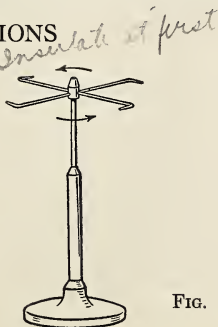

FIG. 590. The electric whirl.
4. If the little device shown in Fig. 590 is placed on a glass plate and then connected to one terminal of a static machine, the top part whirls rapidly when the machine is in operation. Explain.